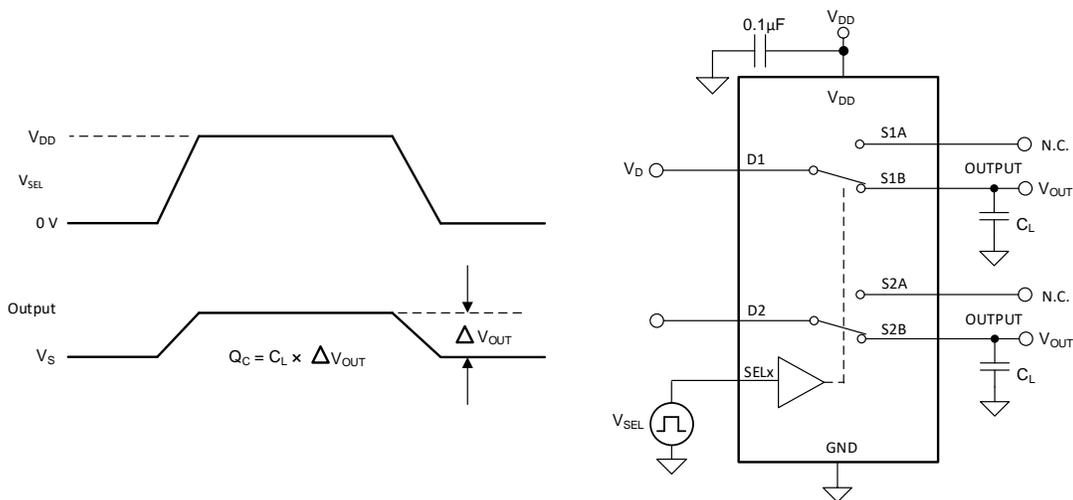

Figure 21. Charge-Injection Measurement Setup
The TMUX1136 has a transmission-gate topology. Any mismatch in capacitance between the NMOS and PMOS transistors results in a charge injected into the drain or source during the falling or rising edge of the gate signal. The amount of charge injected into the source or drain of the device is known as charge injection, and is denoted by the symbol  $Q_C$ . Figure 21 shows the setup used to measure charge injection from Drain (D) to Source (Sx).